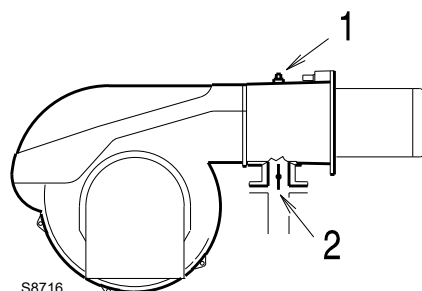

Fig. 25
Gas pressure measured at the test point 1)(Fig. 25), with:
Pressure loss at gas butterfly valve 2)(Fig. 25) with maximum opening: 90°.
- Subtract the combustion chamber pressure from the gas pressure measured at test point 1)(Fig. 25).
Gas pressure at test point 1)(Fig. 25) = 23.3 mbar
To know the required gas pressure at test point 1)(Fig. 25), set the maximum output required from the burner operation, then:
- Read, on the right (column 1) the socket pressure 1)(Fig. 25).
pressure required at test point 1)(Fig. 25).